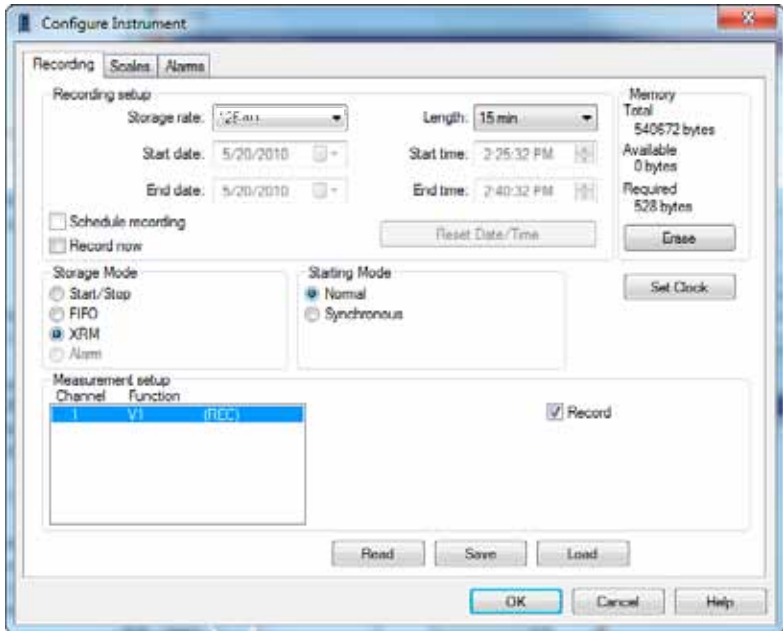

Figure 5-6
2. Next, select **Configure** from the **Instrument** menu and the Configure Instrument dialog box, similar to Figure 5-6, will be displayed.